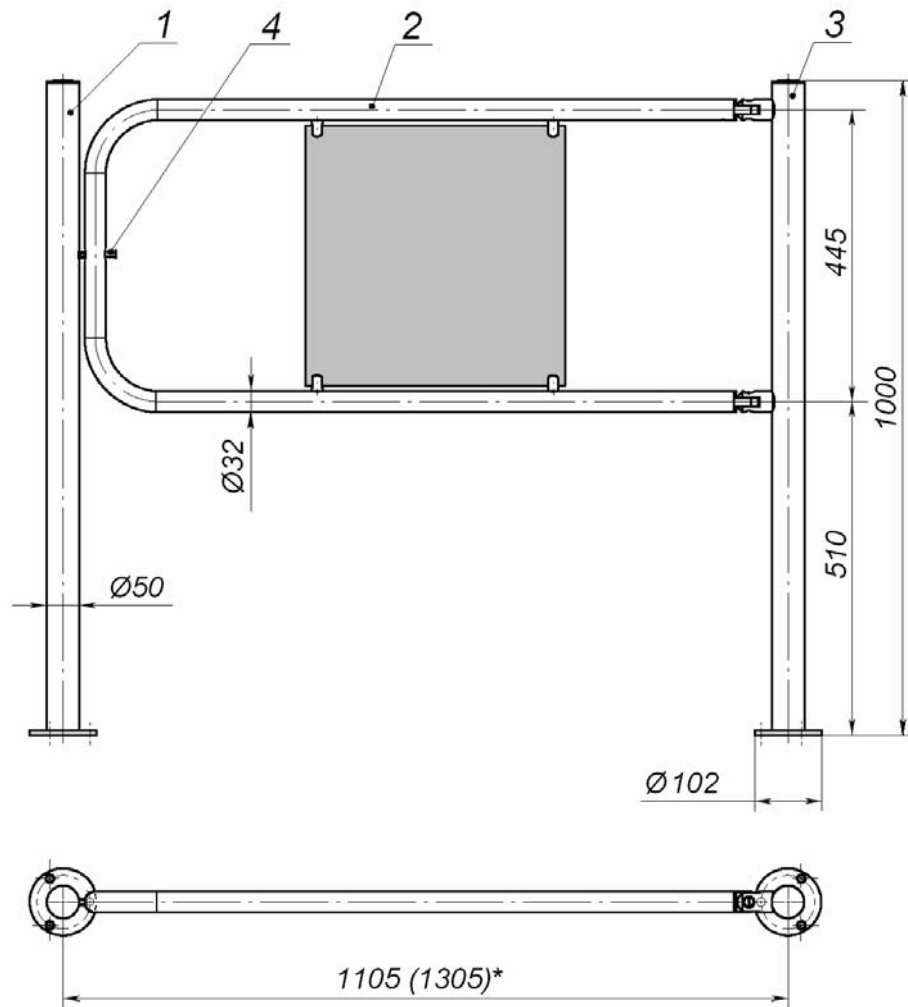
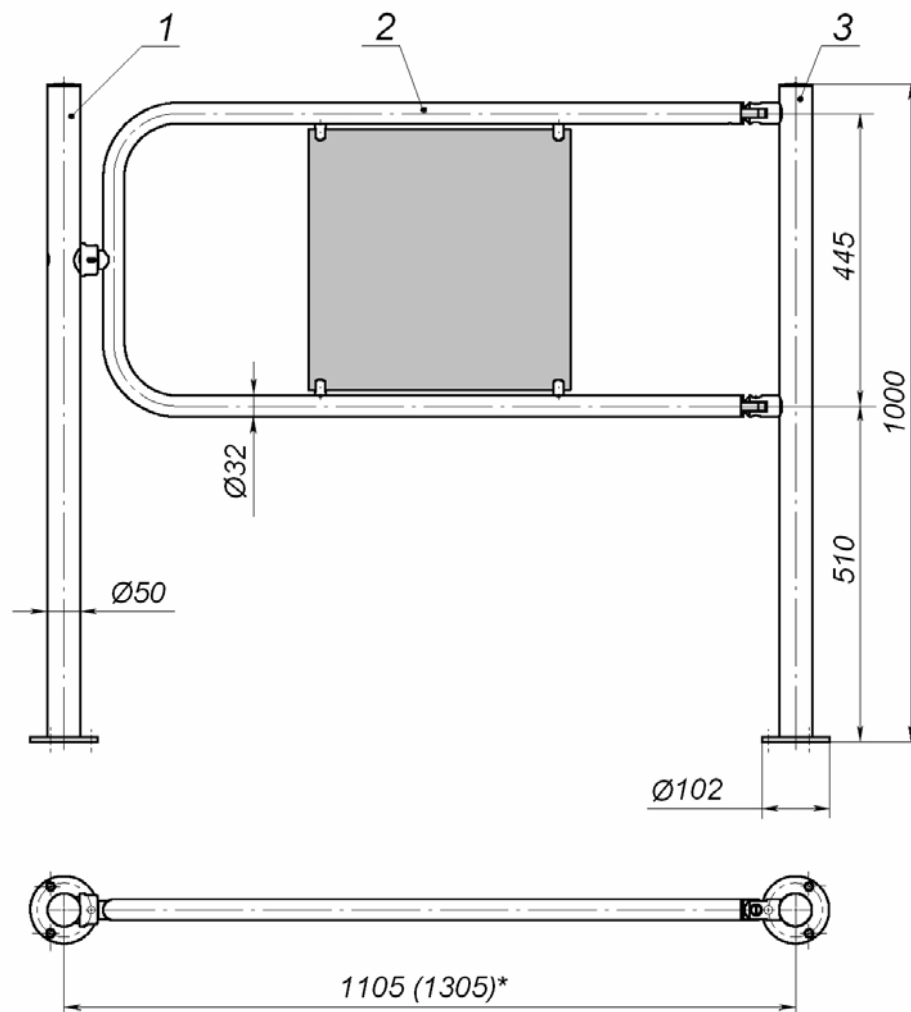

Fig. 4 Rotary railing section with mechanical BD:
Fig. 6 Automatic rotary railing section with electromagnetic BD:
- **Rotary railing section**, designed to form passageways and provide emergency exit. There are two versions: the rotary section with mechanical BD (see Fig. 4) and the rotary section with electromagnetic BD (see Fig. 6).